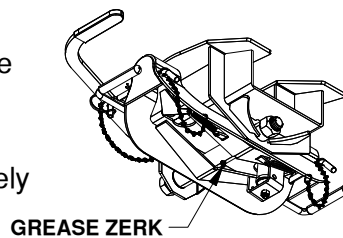

FIGURE J1: Underside view of Coupler Head
- Grease the saddle through the grease zerk approximately every six months with multi-purpose grease. This allows the coupler to pivot freely, see figure J1.